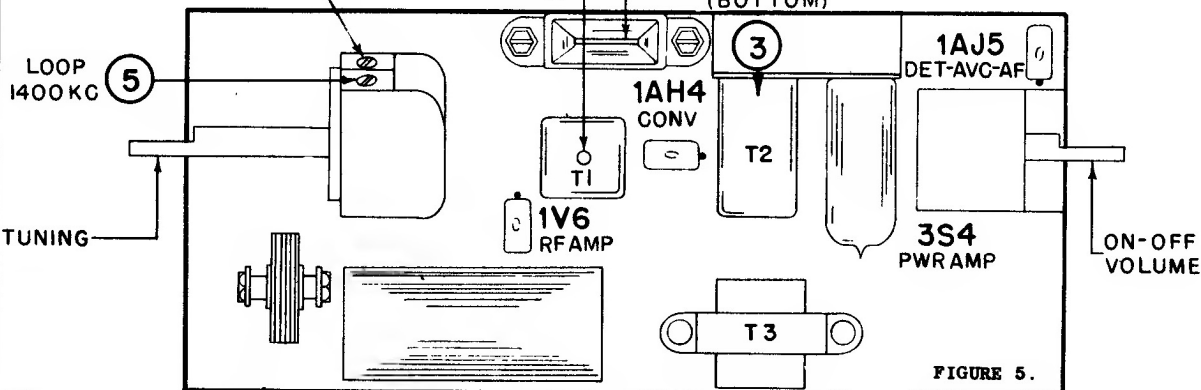

FIGURE 5.
8. See Figure 5 for adjustment locations and the following chart for procedure.